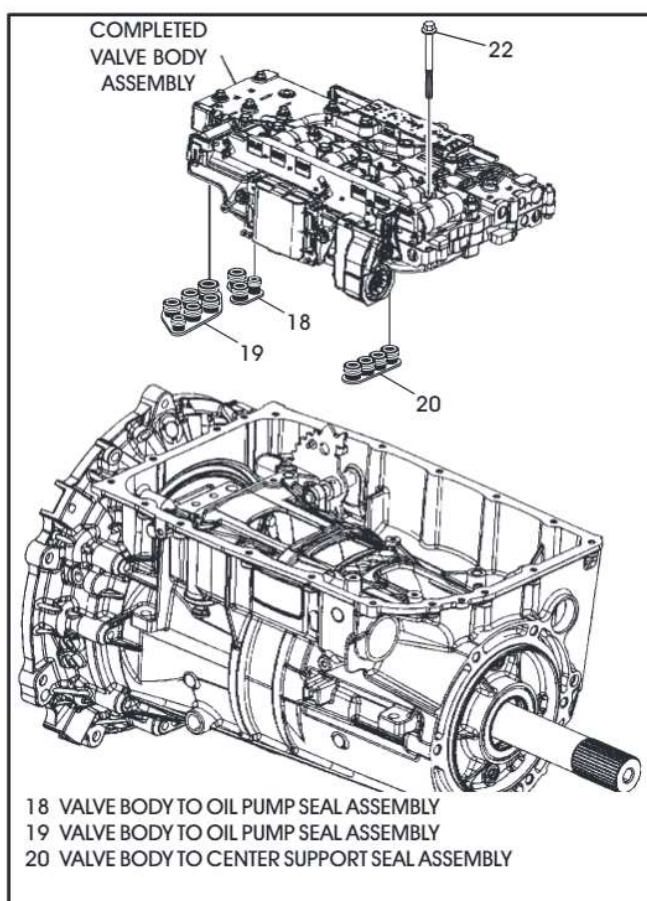
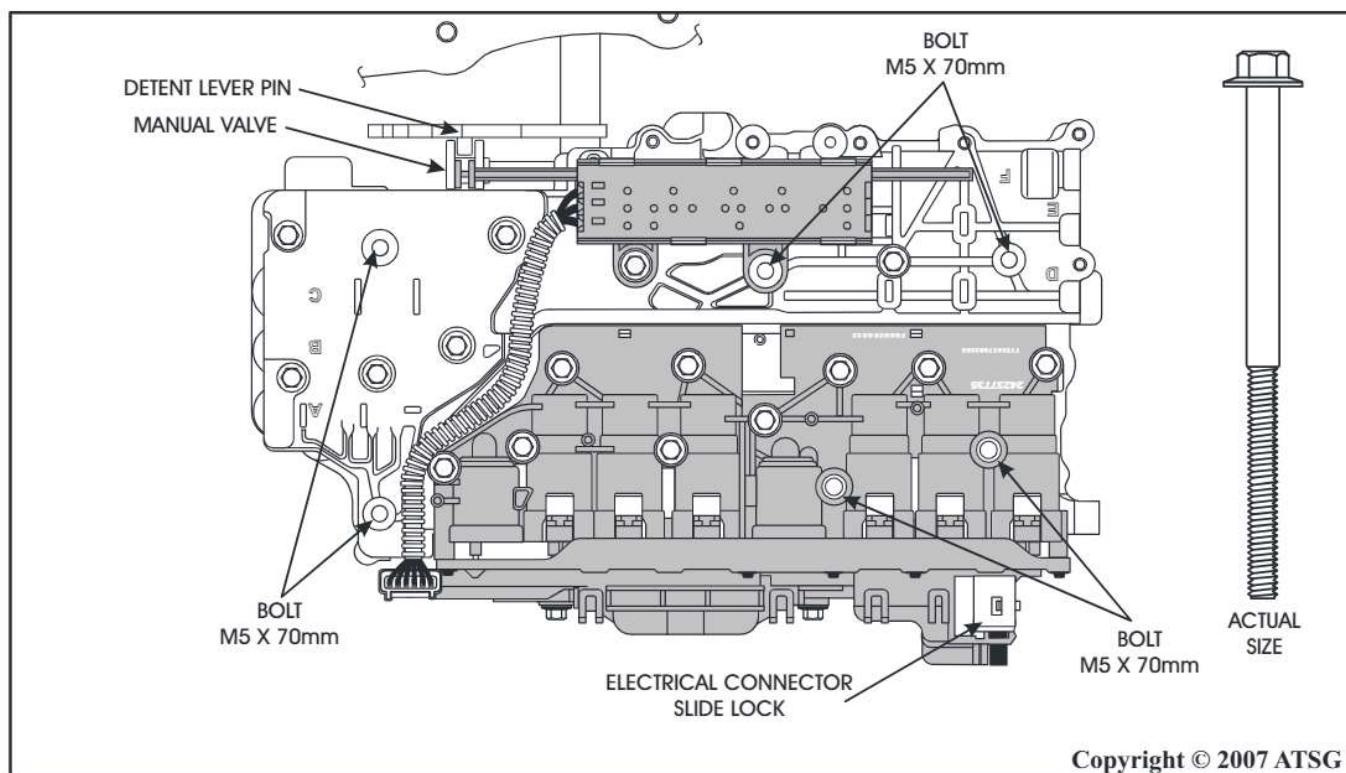

Figure 170
Figure 171
35. Rotate the transmission in fixture so that pan surface is facing up, as shown in Figure 170.
36. Lubricate with small amount of Trans-Jel® and install the three valve body seals into the bores in the bottom of valve body (See Figure 170).
37. Install the pre-assembled valve body onto the case, as shown in Figure 170, ensuring the manual valve is engaged on the detent lever pin, as shown in Figure 171.
38. Install the six 70mm valve body to case bolts in the locations shown in Figure 171.